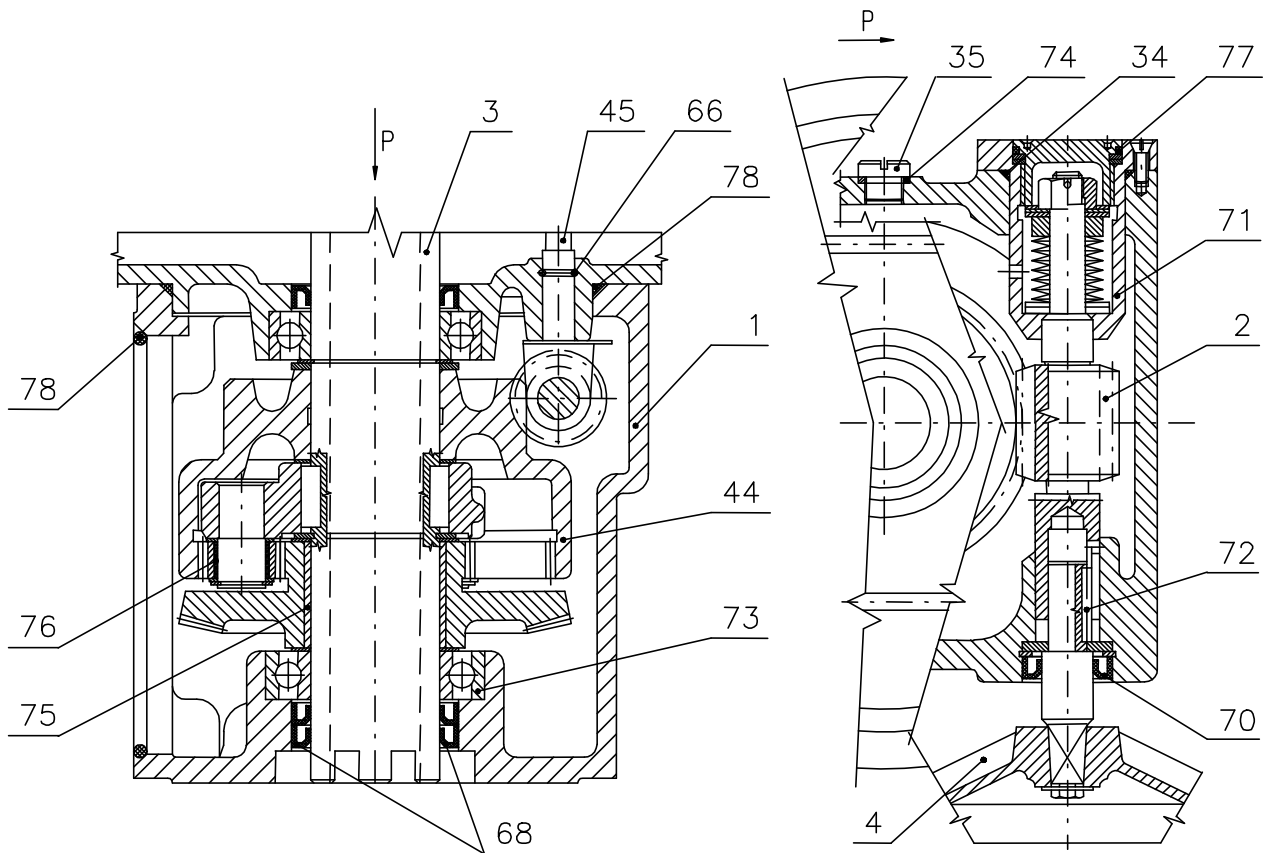

Fig. 2
Modul M 3 – force transmission with manual control (Fig. 2)
It changes rotary movement of the output shaft (3)(Fig.2) to linear movement of output spindle (83). The bronze joint nut (84) with a trapezoidal thread is put into teeth of the output shaft (3). The frame (85) limits rotation of the output shaft (83) and function to indicate position. Pointers (95) “O” (open) or “Z” (closed) indicate position and they are fixed on actuators supporting columns (87).